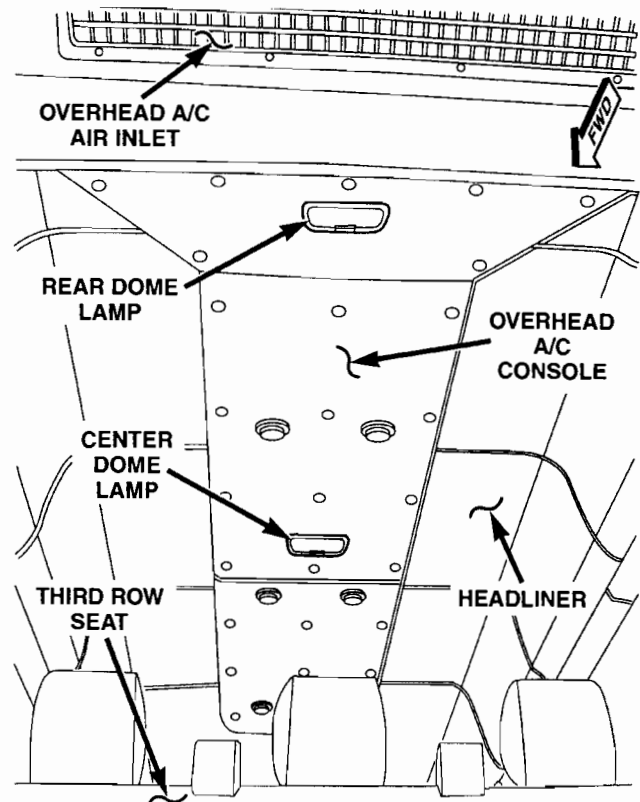

Figure 1 – View from Rear of Vehicle
2. Locate the center and rear dome lamps on the rear A/C overhead console (Figure 1).